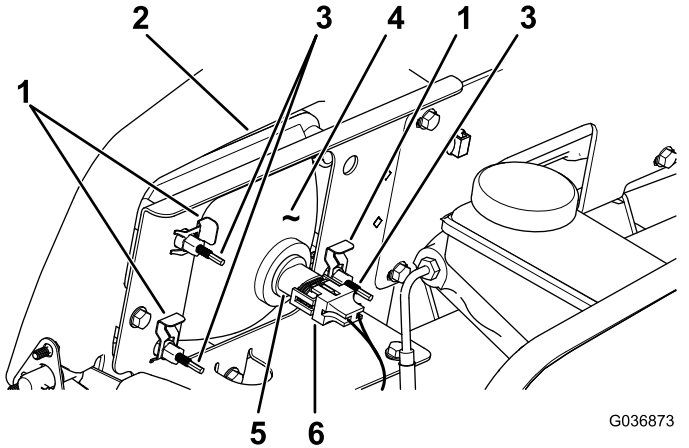

Figure 39
3. Disconnect the electrical connector for the harness from the connector of the lamp assembly (Figure 39).
4. Remove the speed clips that secure the headlight to the headlight bracket (Figure 39).
5. Remove the headlight assembly by moving it forward through the opening in the front bumper (Figure 39).
6. Install the new headlight through the opening in the bumper (Figure 39).
8. Connect the electrical connector for the harness to the connector of the lamp assembly (Figure 39).
2. At the back of the headlight assembly, rotate adjustment screws (Figure 39) to pivot the headlight assembly and align the position of the cast beam.